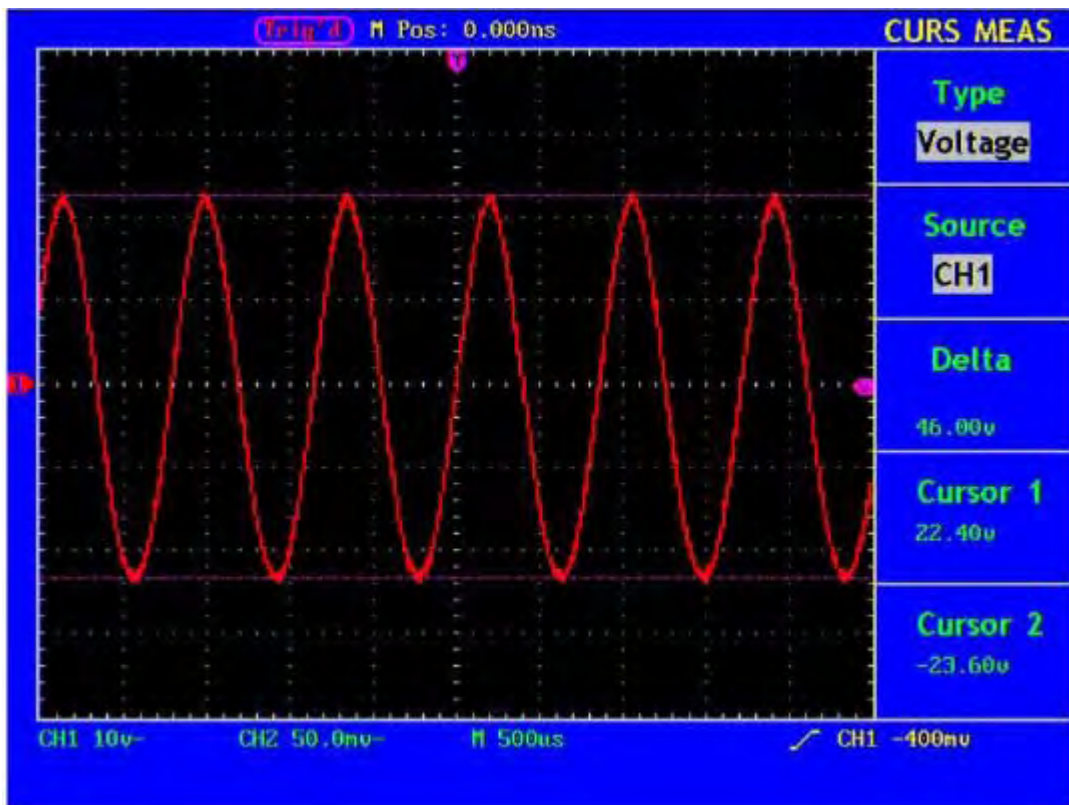

Fig. 51 Wave Form of Voltage Cursor Measurement
4. Adjust the positions of **CURSORM1** and **CURSORM2** according to the measured wave form, with the absolute value of the voltage amplitude difference between Cursor 1 and Cursor 2 displayed in the increment window. The current position of Cursor1 is displayed in the Cursor1 window and that of Cursor2 is displayed in the Cursor2 window (see Fig. 51).